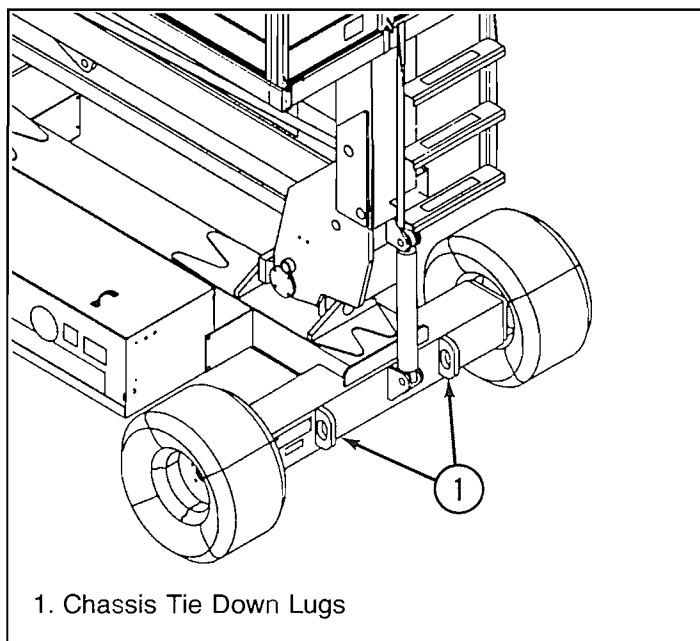

Figure 2-1
3. Secure the work platform to the transport vehicle with chains or straps of adequate load capacity attached to the chassis tie down lugs. (Ref. Figure 2-1, Location of Chassis Tie Down Lugs)